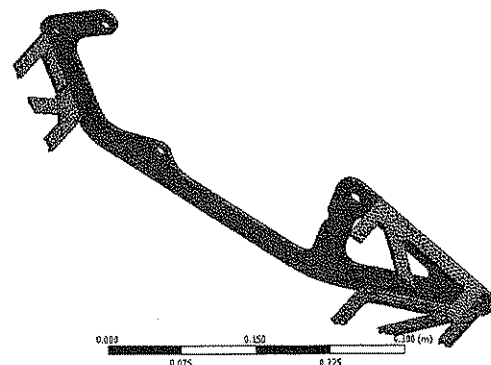

Figure 8-8 Sectioned isometric view of the model with the elements displayed
8. Create a section view of the model and change the view to Isometric, as shown in Figure 8-8.